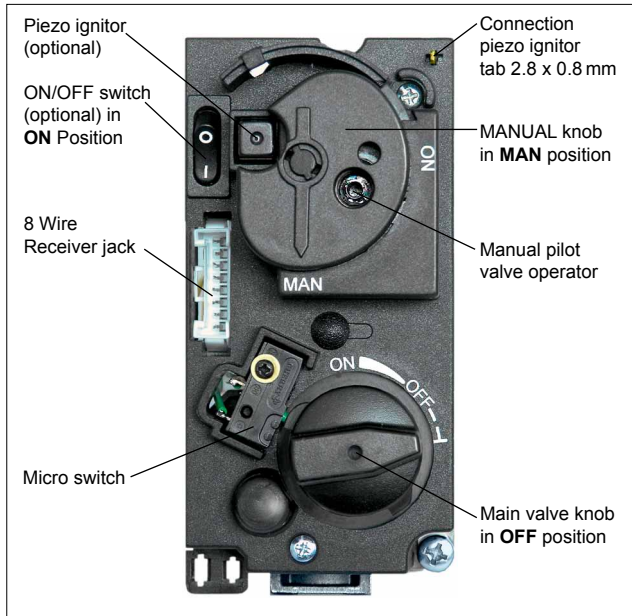

Figure 25: Combination control, cover
5. Wait five (5) minutes to clear out any gas. Verify that no gas is in the area around the appliance, including near the floor. **If you detect gas STOP! Follow “WHAT TO DO IF YOU SMELL GAS” in the safety information on page 2.** If no gas is present, proceed to step 6.
8. Fully push down manual pilot valve operator and hold in, to start pilot gas flow (see figure 25, page 21).
Change the ignition cable from the receiver to the valve (see figure 25, page 21). Push in the piezo ignitor to ignite. If pilot does not stay lit, wait five (5) minutes and repeat.